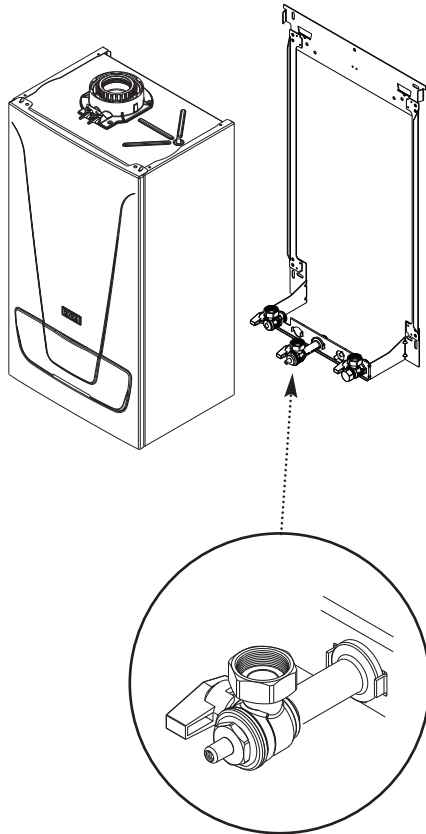

Fig. 3 Gas Service Cock
1. The gas installation should be in accordance with the relevant standards. In GB this is BS 6891 (NG). In IE this is the current edition of I.S. 813 "Domestic Gas Installations".
2. The connection to the appliance is a 22mm copper tail located at the rear of the gas service cock (Fig. 3).